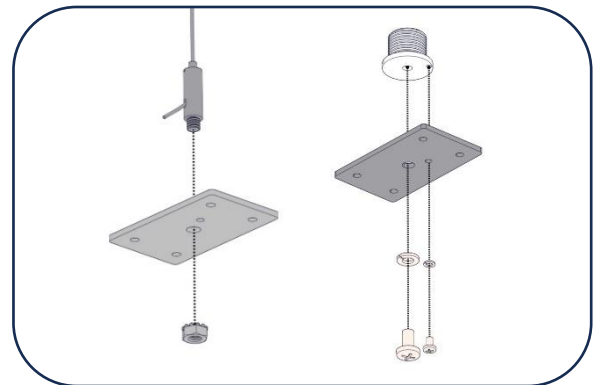

Figure 2
3. Install the appropriate mounting hardware to the Large Joiner Bracket. If installing in a Wall Mount run, only the Large Joiner Bracket is required. [Figure 2]